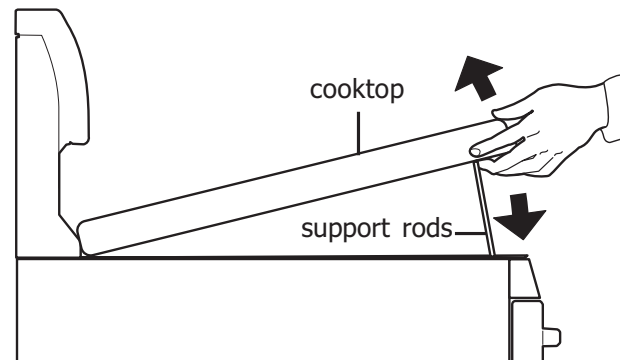

Figure 15: Raise cooktop
2. Grasp the sides of the cooktop and then lift from the front (see Figure 15).